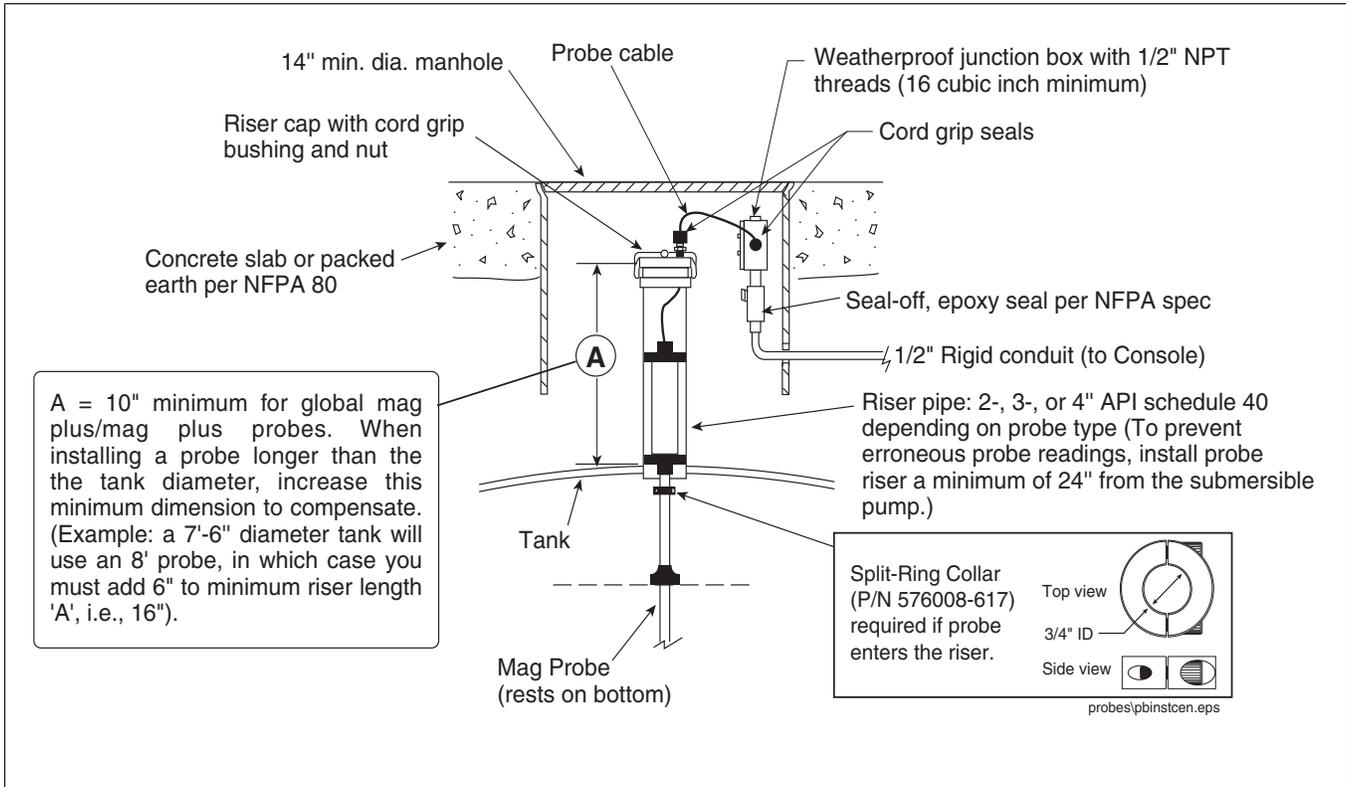
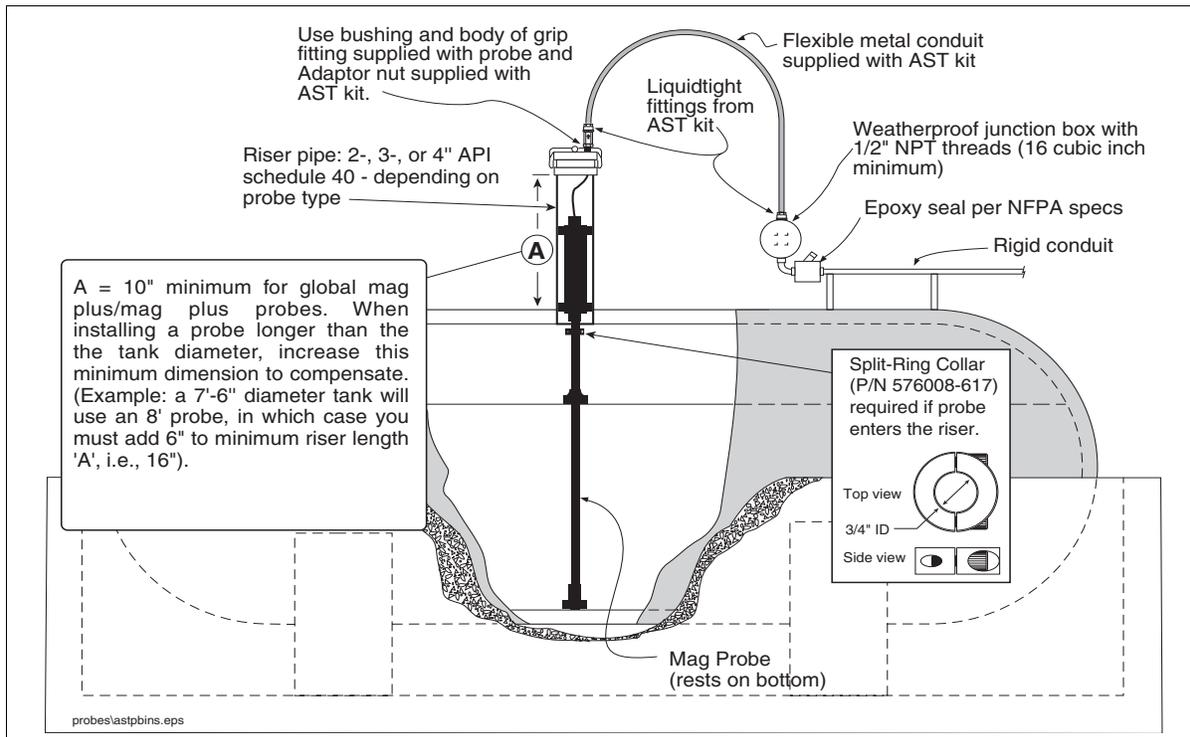

Figure 9. UST probe installation - dedicated riser
Figure 10. AST probe installation - dedicated riser
4. Gently slide the float(s) to the bottom of the probe shaft before raising the probe. Carefully lower the probe into the riser pipe until the boot rests on the bottom of the tank [See Figure 9 for UST installation or Figure 10 for AST installation].